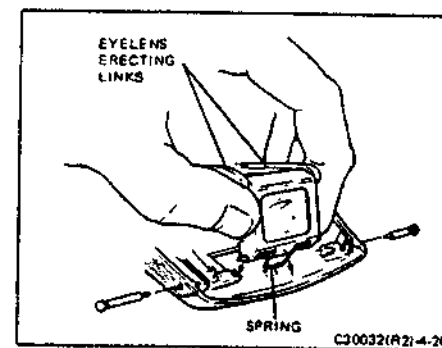

FIGURE 4-26 INSTALLING SPRINGS
- Referring to Figure 4-26, line up the ends of the center pivot pin section with the grooves in the viewfinder cap. Tension the spring and at the same time, press the lens housing down so that the ends of the pivot pin rest in the grooves.
- e. Remove the two short-cover-to-mirror-cover hinge pins, using Special Tool #11665. Insert the tool through the separation between the short cover and the mirror cover (Figure 4-26).